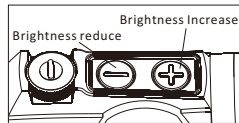

Fig 5
1. Switch on (see Fig5) : Press and release either brightness button ("+" or "-") to turn on the sight.